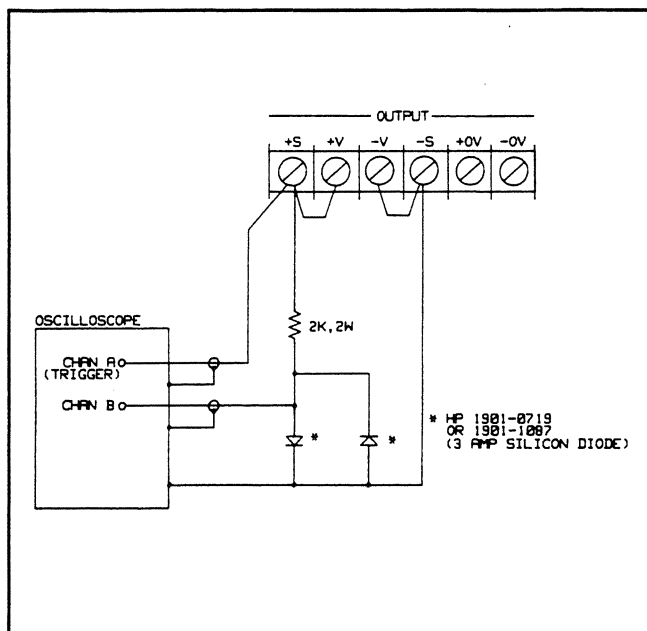
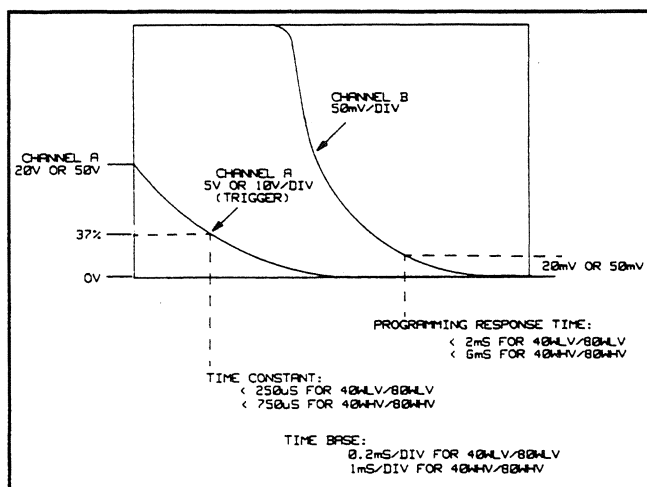

Figure 3-4. Down Programming Speed Test Setup
Figure 3-5. CV Down Programming Speed Test Waveforms
- Turn off the supply and connect the output to be tested as shown in Figure 3-4.
- On Channel A, observe the output voltage transition from the High Range Full Scale Voltage to the scope's bottom horizontal line. Look for a smooth exponential waveform with no "kinks" or aberrations. Perform a time constant check by insuring that the output voltage falls to about 37% of the High Range Full Scale in less than 250  $\mu$ sec. (40WLV/ 80WLV outputs) or 750  $\mu$ sec. (40WHV/ 80WHV outputs). Refer to the Channel A waveform shown in Figure 3-5.
- h. Now observe Channel B on the oscilloscope while maintaining the trigger on Channel A as in step f. Note that the diode clamp, used in the test setup of Figure 3-4, prevents gross overload of Channel B (which is set at 50 mV/div) allowing examination of the "tail" of the exponential waveform. The output voltage should be within 20 mV of its final settling value on the bottom horizontal line in less than 2 msec for 40WLV/ 80WLV outputs and within 50 mV in less than 6 msec for 40 WHV/ 80 WHV outputs. Refer to the Channel B waveform shown in Figure 3-5.